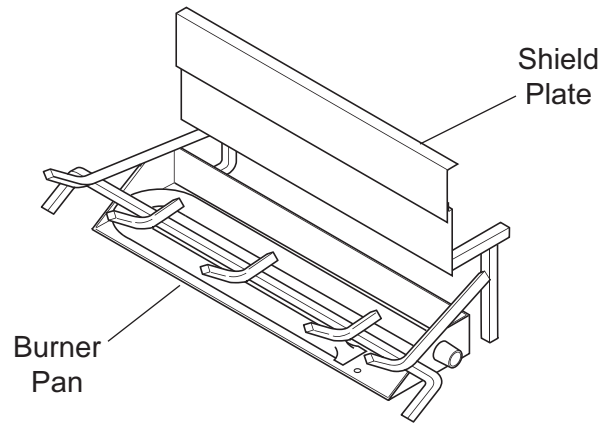

Figure 19 - Sliding Shield Plate Down Back of Burner Pan
1. Slide shield plate down back of burner pan. *See Figure 19.*